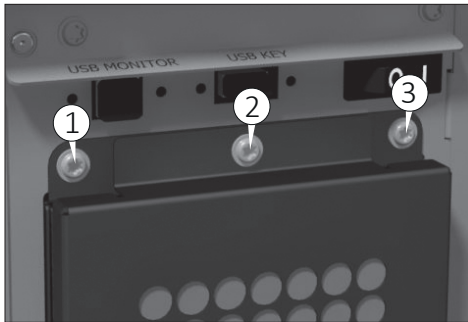

Fig. 25
- 2) Unscrew the screws (1,2 and 3 Fig. 25) using a Torx screwdriver T20.